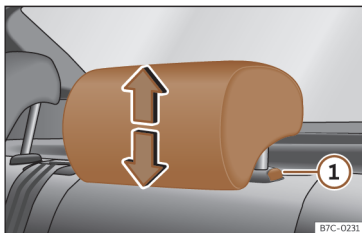

Fig. 87 Rear headrest: adjusting the headrest.
- Grab the sides of the head restraints with both hands and push upwards to the desired position. To lower it, repeat the same action, pressing the button on the side ① >>> **Fig. 87**.